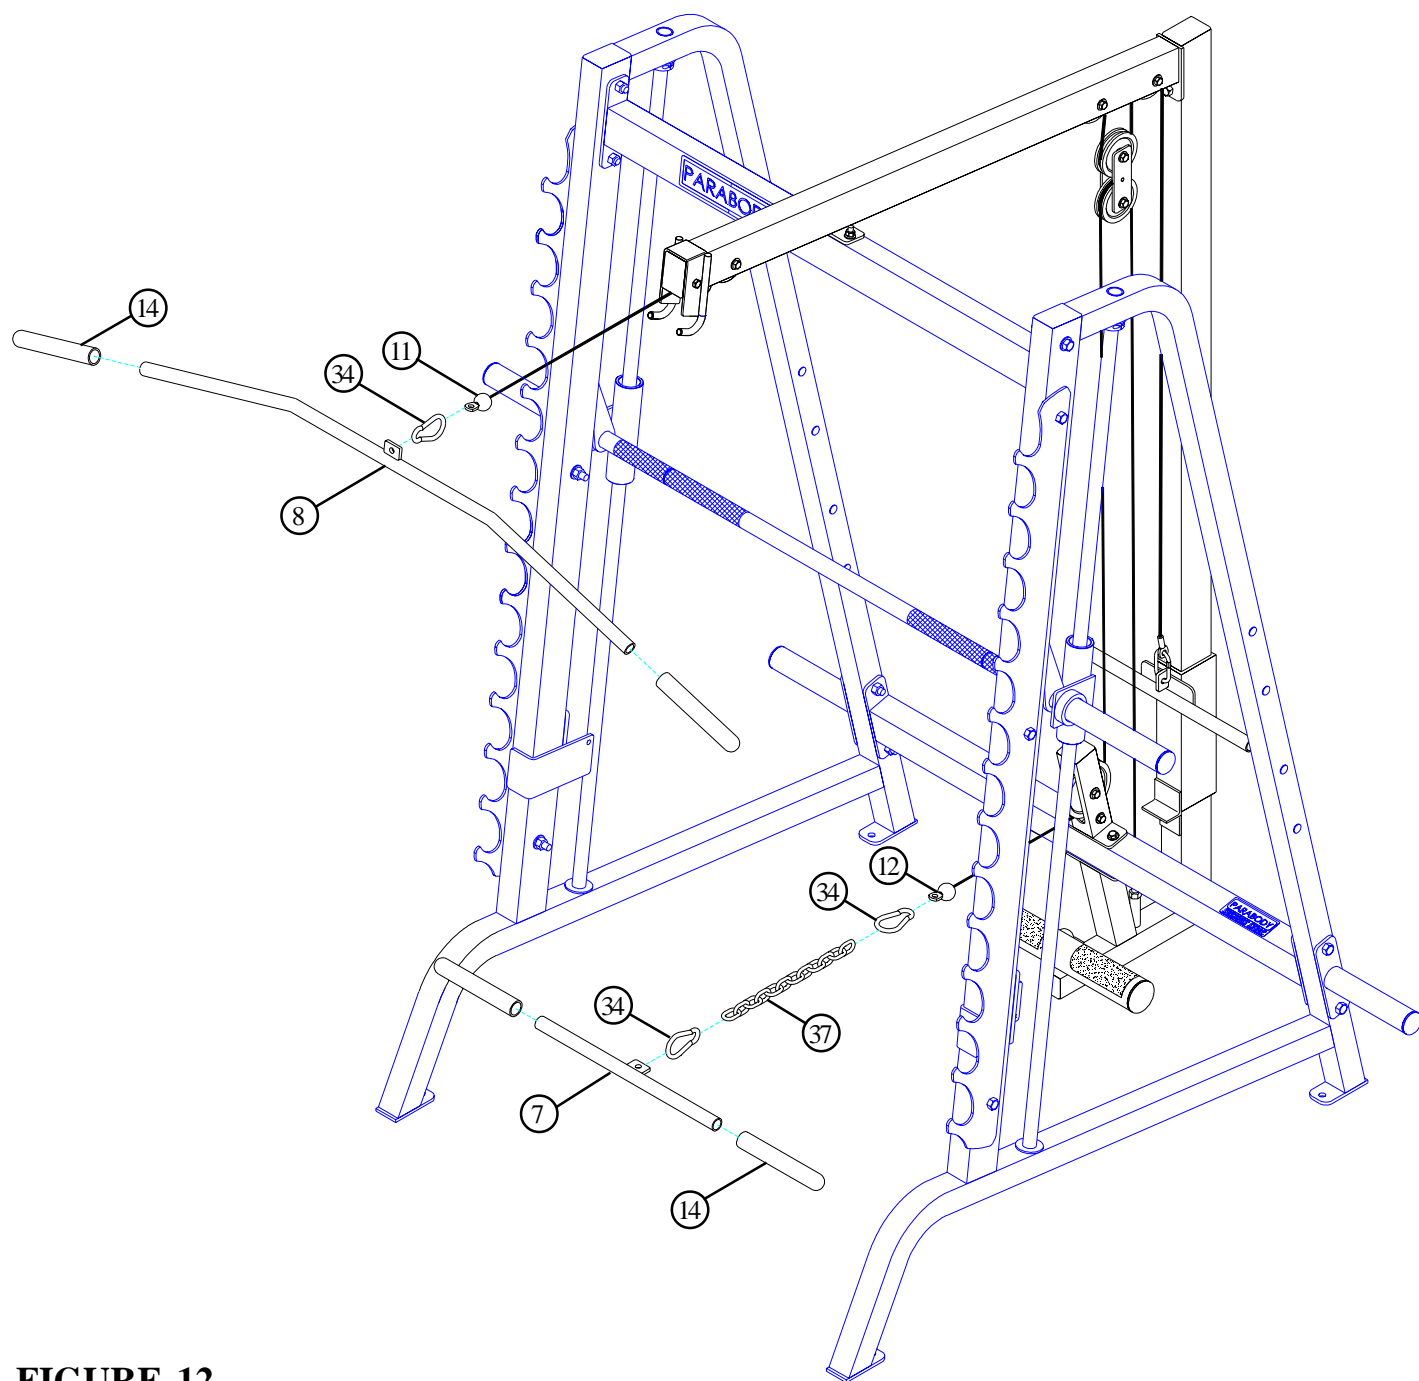

FIGURE 12
- Slide two 1 X 8" GRIPS (14) on the LOW ROW BAR (7) and two 1 X 8" GRIPS (14) on the LAT BAR (8) as shown in FIGURE 12.
- Attach the LAT BAR (8) to the ball end of the upper CABLE (11) using one 5/16" SNAPHOOK (34) as shown in FIGURE 12.
- Attach the LOW ROW BAR (7) to the ball end of the lower CABLE (12) using one 12-LINK CHAIN (37) and two 5/16" SNAP HOOKS (34) as shown in FIGURE 12.